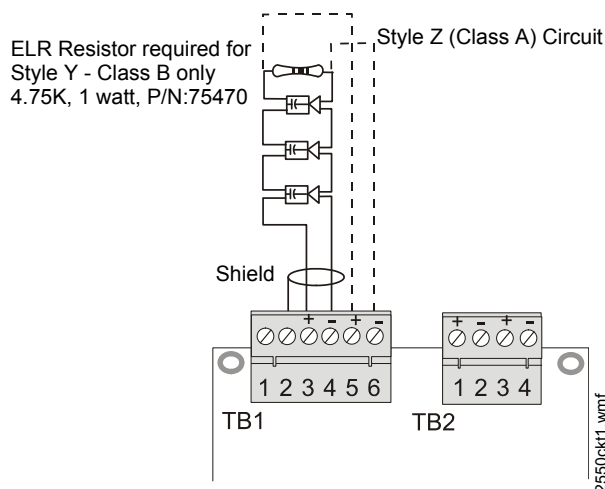

Figure 3.12 Speaker Circuit Connections
- Connect field wiring to newly installed amplifier. Figure 3.12 on page 42 for illustration of speaker connections if amplifier is being used to expand system power to 50 watts (i.e. providing dual 25 watt speaker circuits). Figure 5.3 on page 62 for illustration of connections if amplifier is being used as a backup.